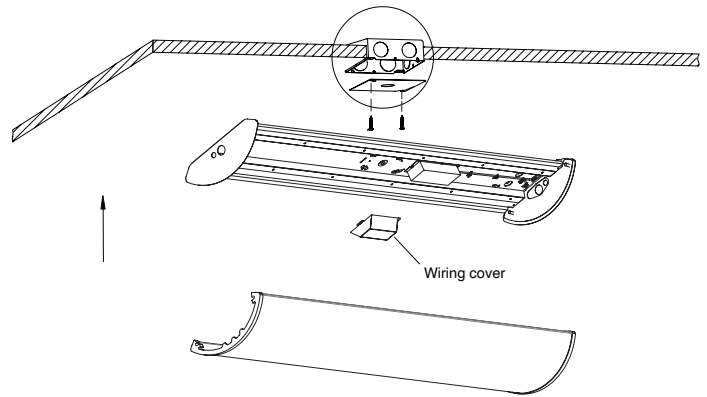

FIG.3
- 1 Use the provided mounting holes on each end of the fixture housing, mount per required application using appropriate hardware (not included). (Figure 3).